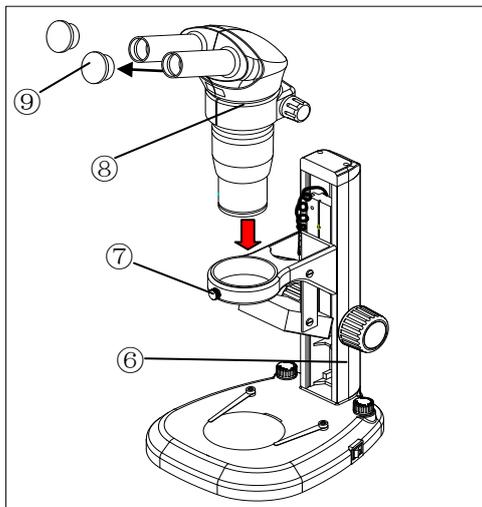
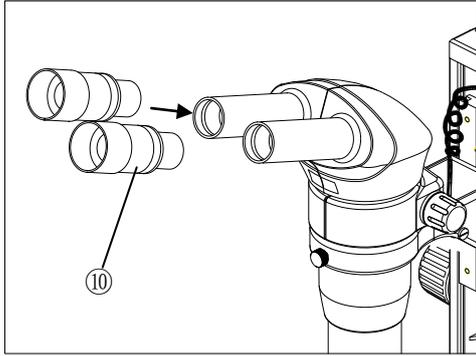
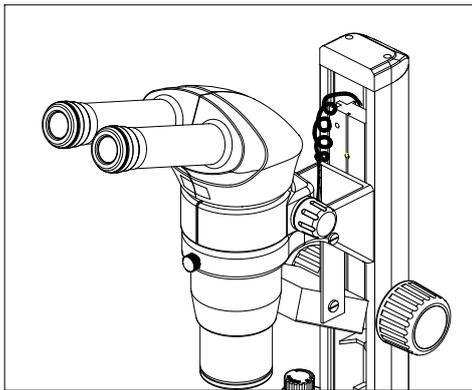

Fig.3
Fig.4
Fig.5
### 2.2.2 Mounting binocular head (Fig.3)
### 2.2.3 Mounting eyepieces (Fig.3、 Fig.4、 Fig.5)
1. Remove the eyepiece dust caps⑨ and gently insert two adjustable eyepieces ⑩ into the eyepiece sleeves until they stops, as in Fig.4.
Use with eye shades in their normal folded-down position. This will prevent eyeglasses from being scratched by the eyepiece as in Fig 5.